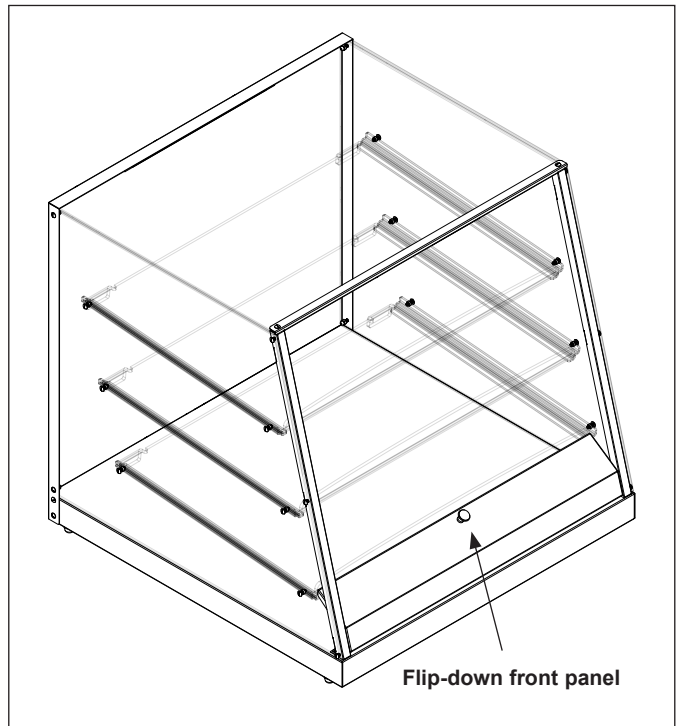

Figure 1. DC-27L Display Case (front)
5. Use the flip-down front panel (Figure 1) to store and conceal product wrapping materials.